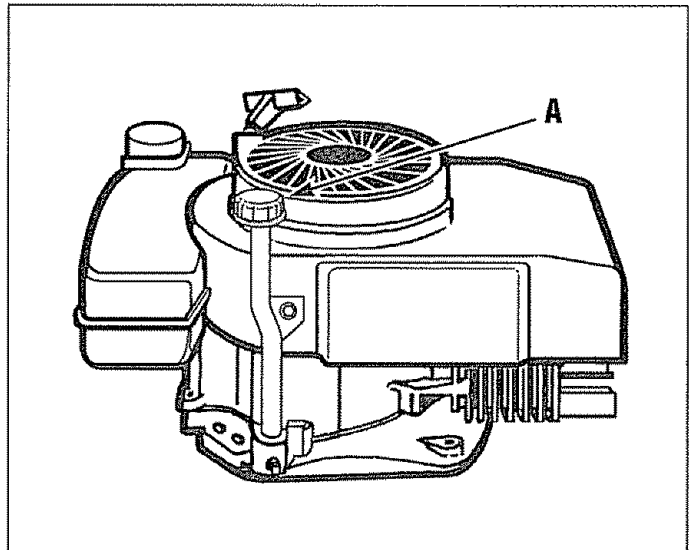

Figure 18: Remove dipstick to add oil to engine.
3. With the machine on level ground, remove the dipstick (A, Figure 18) and place it on a clean surface.